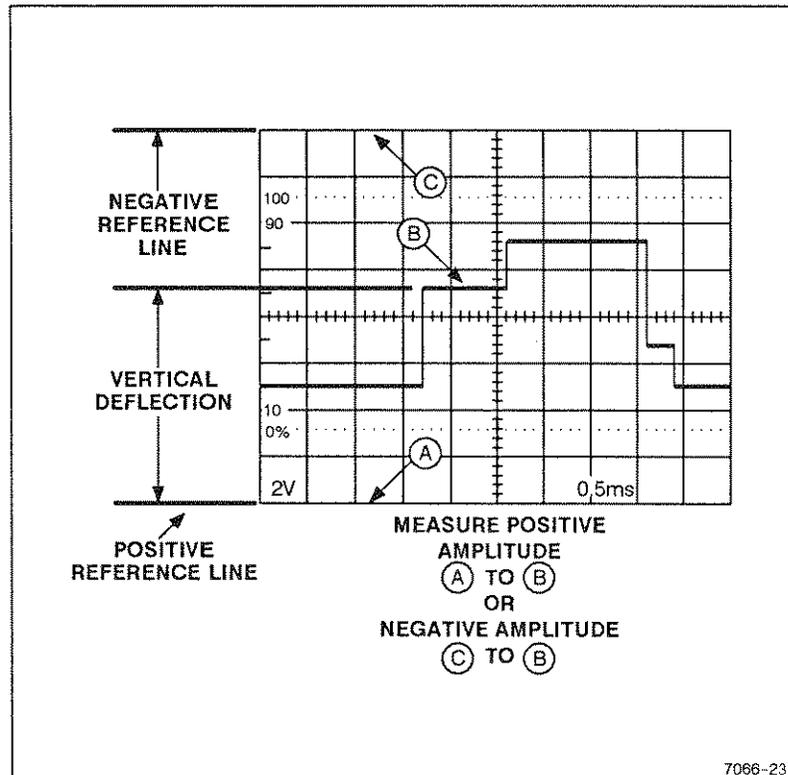

Figure 6-2. Ground-referenced voltage measurement.
4. Set the AC-GND-DC switch to DC. Measure the divisions of vertical deflection between the reference line and the desired point on the waveform (see Figure 6-2).
EXAMPLE: The vertical distance measured is 4.6 divisions (see Figure 6-2). The waveform is above the reference line, the VOLTS/DIV switch is set to 2V, and a 10X scale-factor-switching probe is used.